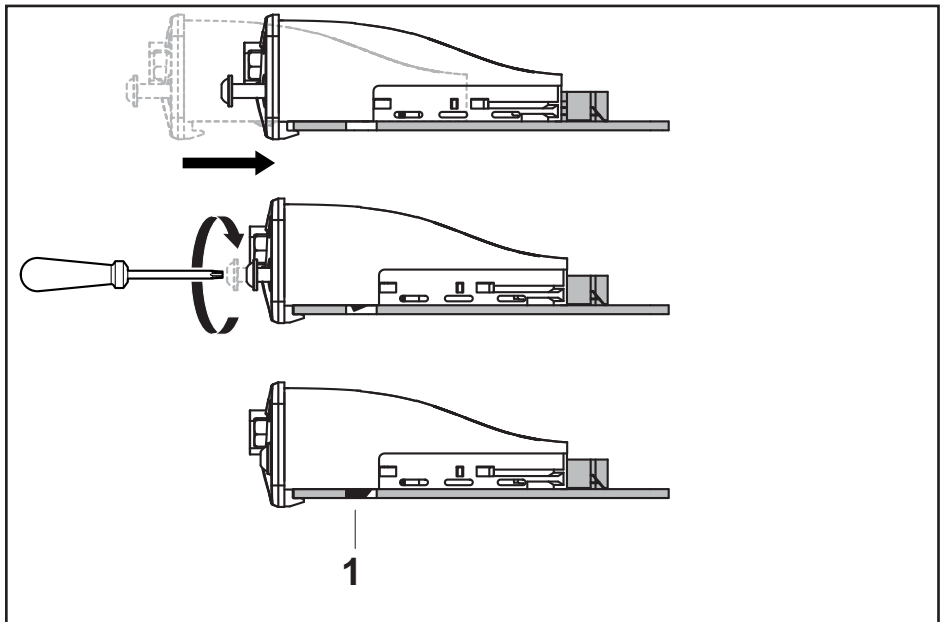

Fig. 4: Lock effect
3. Tighten the torx screws on the front until the front panel is flush. The printed board is locked by turning the screw. This lock is only fully functional once the interface has been properly tightened (see Fig. 4).